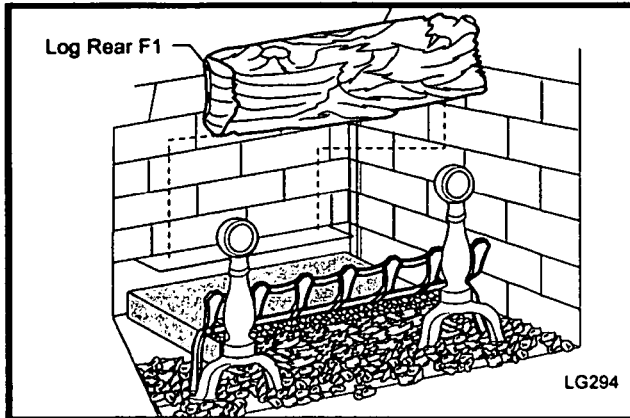

Fig. 44 Place log rear onto rear log bracket.
6. Center the log rear onto the rear log bracket and slide back until it comes in contact with the rear refractory lower. (Fig. 44)